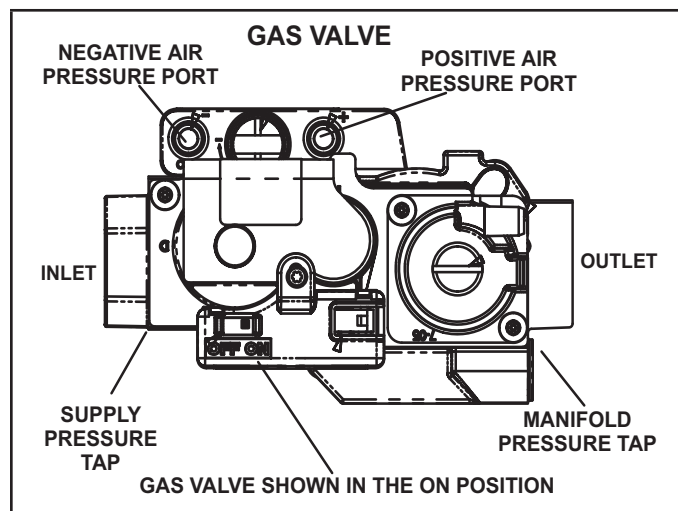

FIGURE 48
Gas Valve Operation (Figure 48)
- 6 - Move the gas valve switch to the OFF position. See figure 48.
- 8 - Move gas valve switch to the ON position. See figure 48. Do not force.